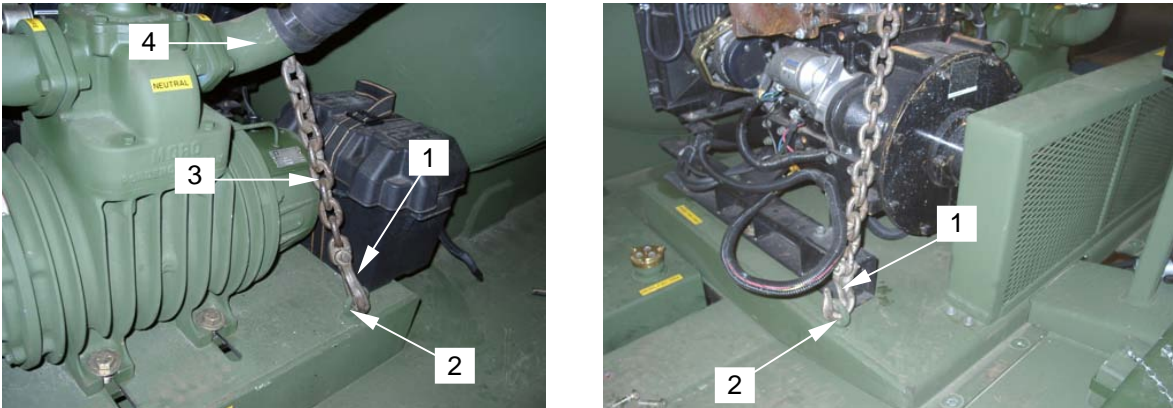

Figure 25. Attaching Lifting Hooks
12. Attach lift hooks (**figure 25, item 1**) to skid lifting eyes (**figure 25, item 2**) as shown. Ensure rear lifting chain (**figure 25, item 3**) is positioned behind vacuum pump port (**figure 25, item 4**).